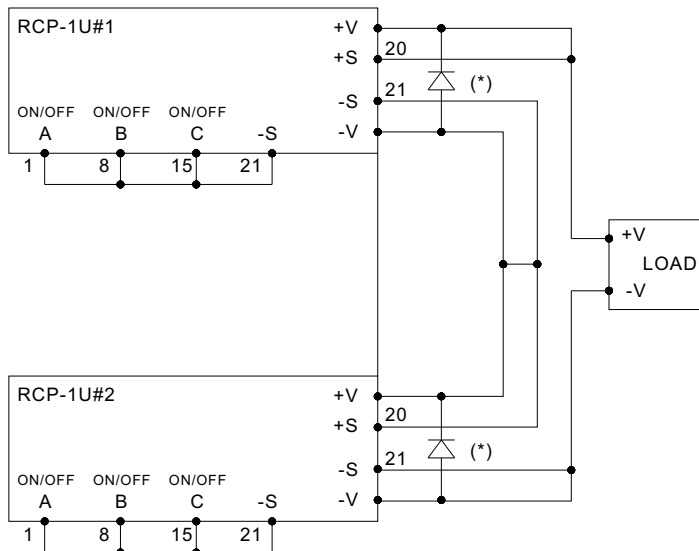

Figure 3-8: Operating in series connection
- ⊙ The racks (RCP-1U□) connected in series should have the same single unit (RCP-1000-□) in each rack. Please refer to Figure 3-8 for the reference connection method.
- ⊙ It is suggested to add on external diodes shown in Figure 3-8 to prevent the reverse voltage. Rating of these diodes should higher than the total amount of output voltage and current.